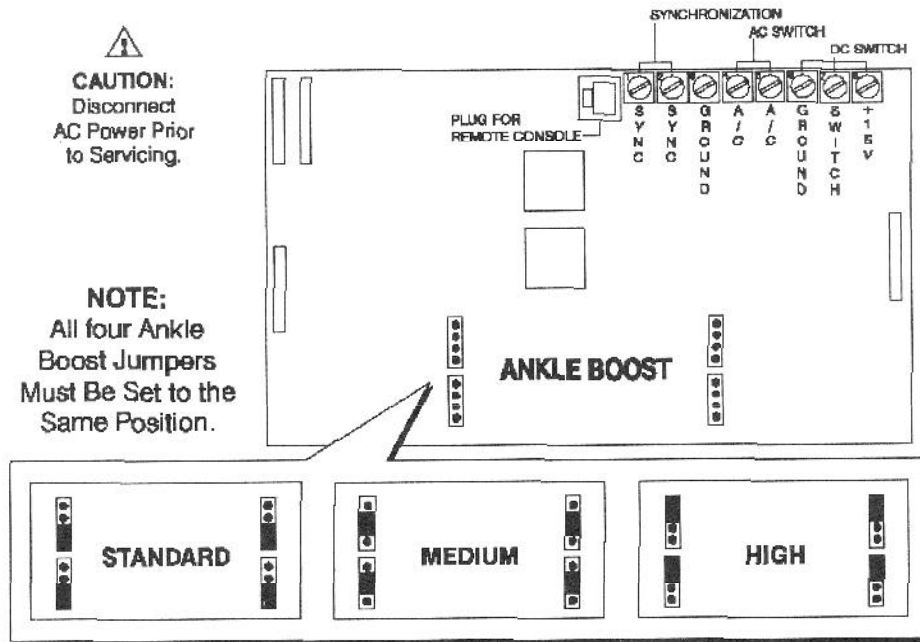

Figure 7.4.1
- Remove the three (3) screws that hold the controller cover;
- Move jumpers as shown in the diagram on Figure 7.4.1 to achieve the required level of boost (all jumpers must be set to the same level);